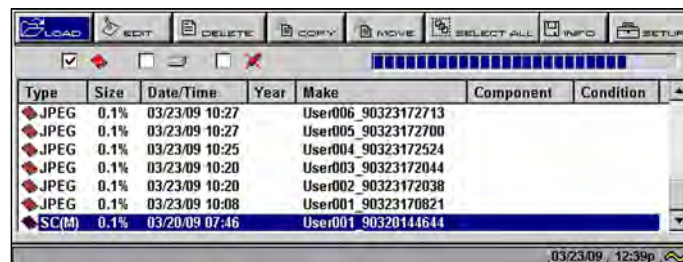

Figure 5-40 Sample saved data list
3. Select the file that you would like to review (Figure 5-40).